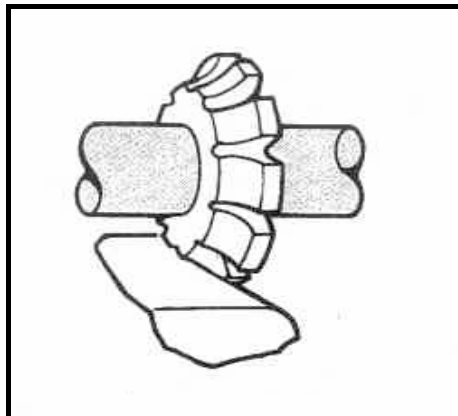

FIGURE 1.2
- 1.7 Identify the type of milling cutter shown in FIGURE 1.2.